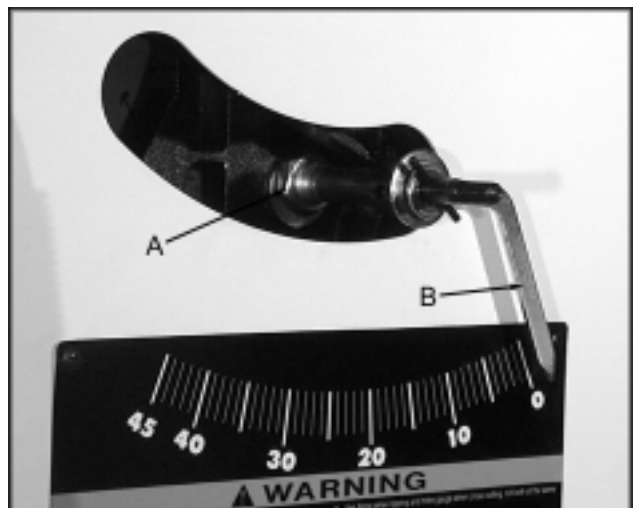

Fig. 14
2. Remove lock knob and raising handwheel but do not remove pointer, (Figure 14).
3. Loosen lock nut (A, Fig. 14) using a 15/16" wrench.
4. Use the pointer (B, Fig. 14) as a lever and turn left, or right until all perceptible play between the worm and arbor bracket is removed.